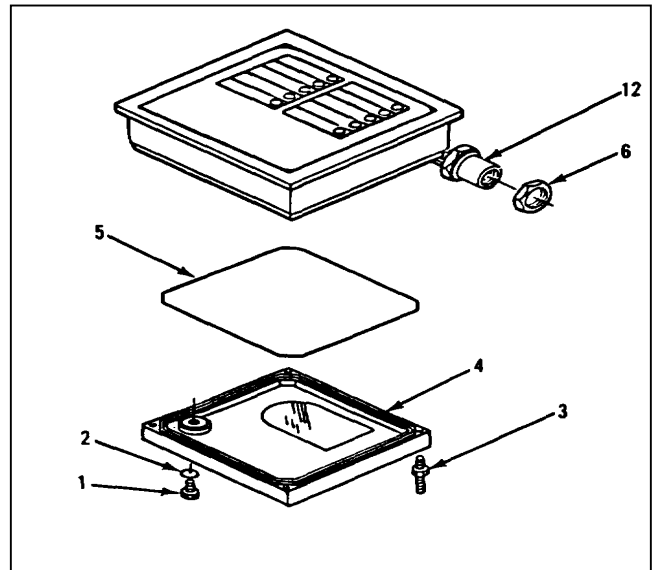
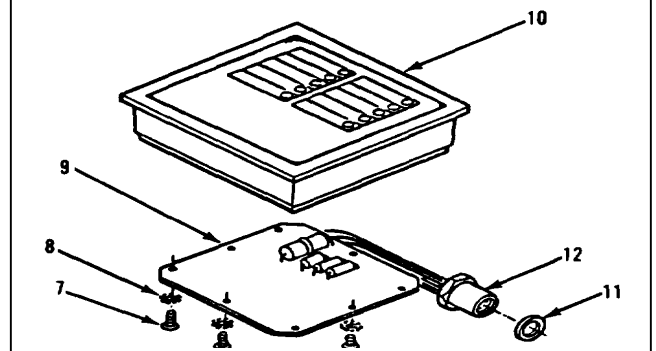

Figure 4-83.
Figure 4-84.
1. Remove plug (1) and preformed packing (2) from cover (4). Discard preformed packing (2, Figure 4-83).
2. Remove four stud bolts (3), cover (4) and preformed packing (5). Discard preformed packing (5).
3. Remove nut (6) from harness assembly (12).
4. Remove nine screws (7), lock-washers (8), board assembly (9) and housing (10, Figure 4-84).
5. Remove washer (11) from harness assembly (12).
1. Install washer (11) on harness assembly (12, Figure 4-84).
2. Apply heat transfer compound to corner of board where transistor and heat sink are located. Apply thread sealant to nine screws (7). Install housing (10), board assembly (9), nine lockwashers (8) and screws (7).
3. Install nut (6) on harness assembly (14, Figure 4-83) and tighten to 72 lb-in torque.
4. Install new preformed packing (5), cover (4) and four stud bolts (3). Tighten four stud bolts (3) to 48 lb-in torque.
5. Install new preformed packing (2) and plug (1).